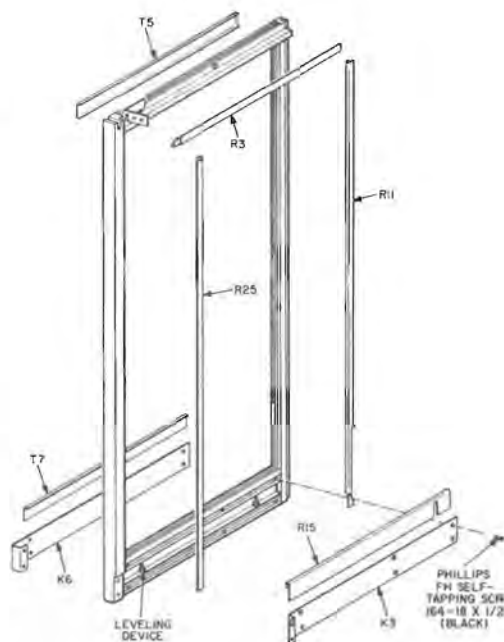
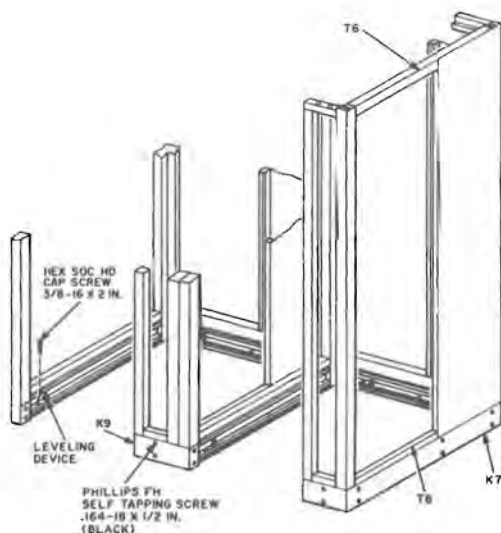

Fig. 15—Partial View of Left Wall
Fig. 16—Partial View of Two Booths.
- (2) Place List 21 booth to the right of the previous booth and perform operations outlined in 3.06 through 3.10.
- (3) Remove R3 retaining strip from top left-inside wall of the booth being installed (Fig. 15).
- (4) Fasten booth walls together at top using two 1/4-20 by 1-1/2 hex socket head cap screws and at the bottom using two 1/4-20 by 3/4 hex socket head cap screws. Screws are furnished with List 21 booth.
- (5) Install R3 in its original position.
(6) Install T6, T8, and K7 (Fig. 16) on the last right-hand booth of a line-up.
(8) Install K9 kickplate (packaged separately) on the bottom-front-outside wall between booths (Fig. 16).
- (1) Remove and retain the following items from the previous existing or left end booth (Fig. 15):
- (3) Repeat 3.31 (3) through (7).
- (4) Repeat 3.22 (4).
- (5) Remove and retain the following items from the new booth.
- (6) Transfer B-651879 rails from the left wall of the new booth to the wall where the glass panel was removed.
- (7) Install all items retained in (1) and (5) on the left walls of the booths (Fig. 15).